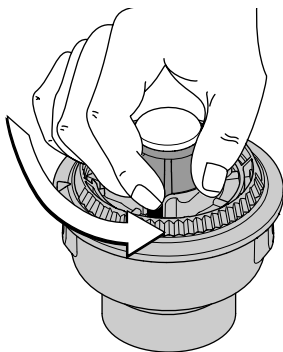

Figure 23
1. Hold the outer spool, and unscrew the bump knob counterclockwise. See Figure 23.